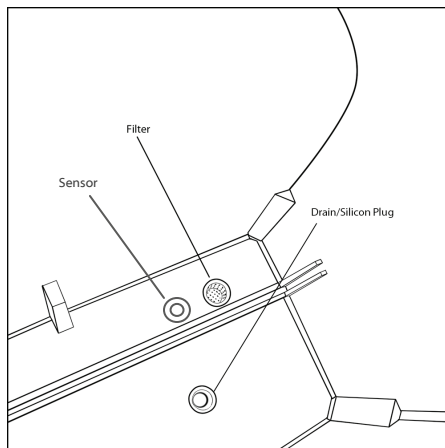

Figure 3.
2. Pull out (upwards towards you) the Silicone Plug which is located at the bottom of the water tank beneath the ice basket. (See figure 3). Make sure there is a large bucket or bowl placed underneath the unit to catch the water draining from the ice maker.